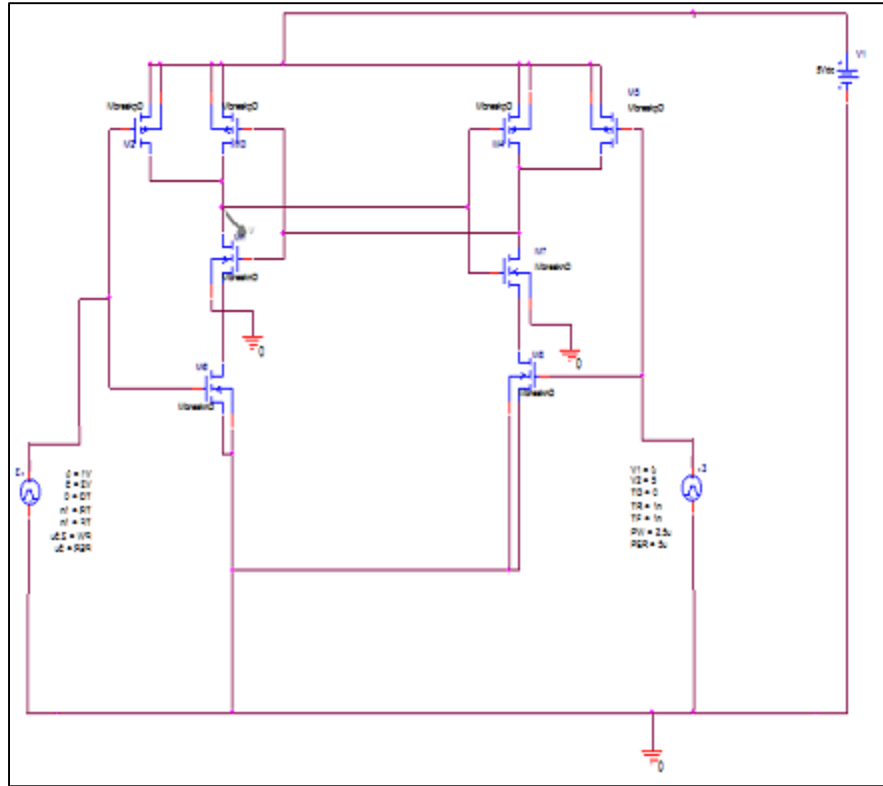

Figure 3 NAND based SR-Latch
You are required to design SR-Latch like the one on figure 3. It consists of 2 back to back NAND gates. It has two input signals: set and reset.
- Build the circuit shown in figure 3. Do not forget to size the NAND gate to get delay like the reference inverter.